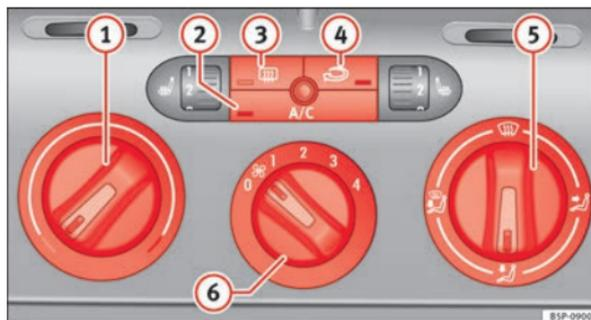

Fig. 126 On the dash panel: Climatic controls
- Use the knobs ⇒ Fig. 126 ① and ⑤ and control ⑥ to set the temperature, air distribution and blower speed.
- To switch a function on or off, press the appropriate button ②, ③ or ④. When the function is activated, the display window in the lower corner of the button is lit.
① Temperature selector ⇒ page 137
② **A/C** button – Turning the air-conditioning system on/off ⇒ page 137 ▶
- ③  button – Heated rear window This function will be switched off automatically approximately 20 minutes after switching on. It can also be switched off beforehand by pushing the button.
- ④ Button  – Air recirculation mode ⇒ page 138
- ⑤ Air distribution control ⇒ page 137
- ⑥ Blower switch. There are four speed settings for the air flow. The air flow should always be set at the lowest speed when driving slowly.
- Switch on the air conditioner using the button ⇒ Fig. 126 .